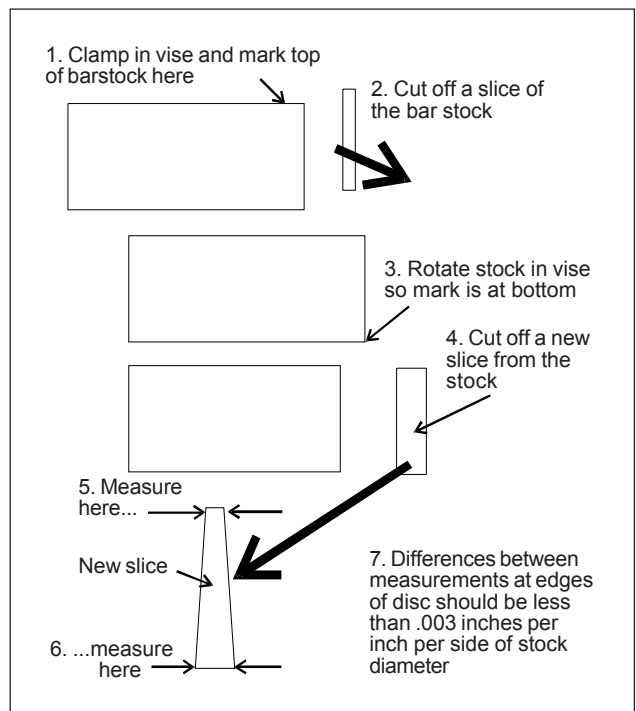

Figure 14: Cutting a Test
1. With the bar stock securely clamped in the vise, make a cut through the bar stock. (See figure 14.)